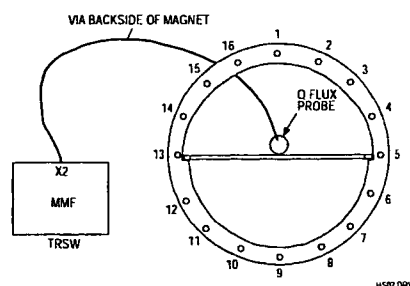

Figure 1 Measurement set-up (Front view)
6. Connect a 50 ohm coaxial cable between tune A at connector MMFX2 and the quadrature flux probe. See Figure 1.